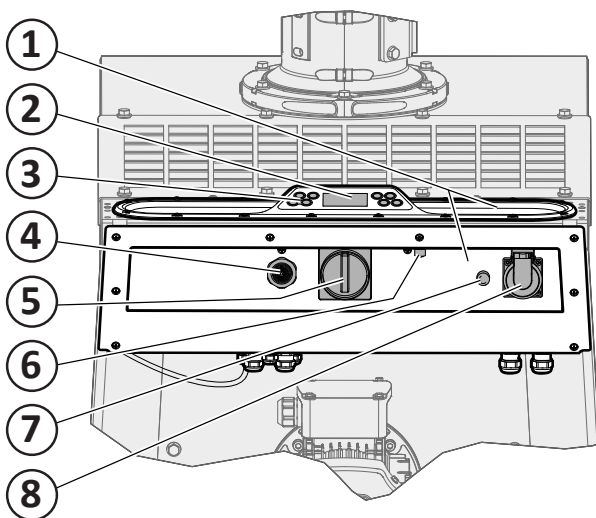
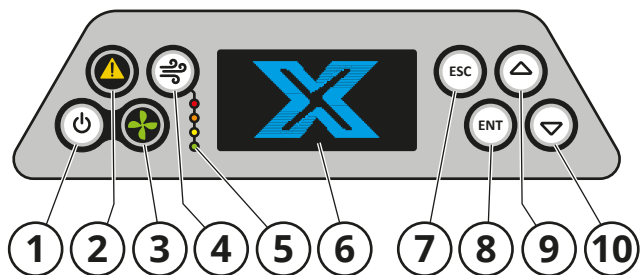

Fig. 16
Fig. 17
Se Fig. 16.
On the control panel (**Fig. 16**) there is a navigation panel, switch, pliers sensor connection and 230 VAC socket with a miniature circuit breaker. The control panel also functions as a handle when moving and usable surface area.
See Fig. 17.
When the machine is turned on with the switch (5, Fig. 16), the display (6, Fig. 17) lights up. When the display shows SETTINGS and MAINTENANCE, the navigation panel is ready for use. The fan is started/stopped with the Start/Stop fan button (1) and operation is indicated by the indicator light (3). If the airflow is too low, the light goes out and the audible alarm is triggered.
Auto plug start. Setting to start and stop the fan motor with a tool, e.g. an angle grinder, connected to 230 V socket (pos 8, **Fig. 16**). Selection is made with the navigation button.
With selection of **AUTO cleaning ON** in the settings menu, filter cleaning is automatic during operation. Automatic filter cleaning is performed between preset pressure drops. The Filter status indicator lights on the control panel (**Fig. 17**, pos 5) show the degree of contamination of the filter medium. Offline cleaning is also performed 20 minutes after the fan motor is switched off. When the filter cartridge is clogged and the airflow too low, the audible alarm and warning indicator (2) are triggered.